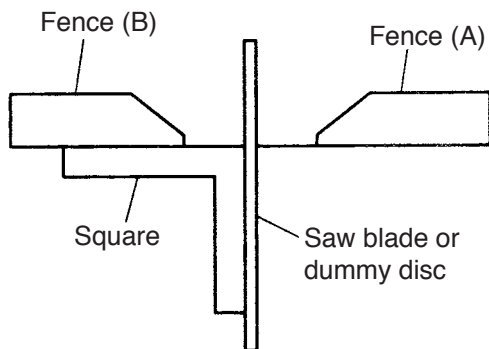

Fig. 36
After disassembly or replacement of the Base Ass'y [67], Turn Table [36], Fence (A) [65], Fence (B) [54] or Hinge [16], it is necessary to perform adjustment to ensure that the fences are positioned at precise right angles with relation to the saw blade (or dummy disc). Align fence (B) with the saw blade (or dummy disc), and adjust them as necessary to ensure squareness (tolerance: 0.4/100 mm). As shown in Fig. 36, use a square to set fence (B) square to the saw blade. Next, use a straight edge to adjust fence (A) so that it is exactly aligned with fence (B). Finally, use the square to confirm squareness of fence (A) with the saw blade (tolerance: 0.4/100 mm).
(2) Reassembly of the Turn Table [36]